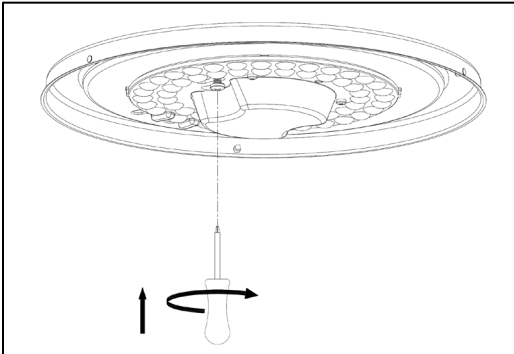

Figure 10
6. Secure the 2 screws with Phillips screwdriver (See Figure 10).